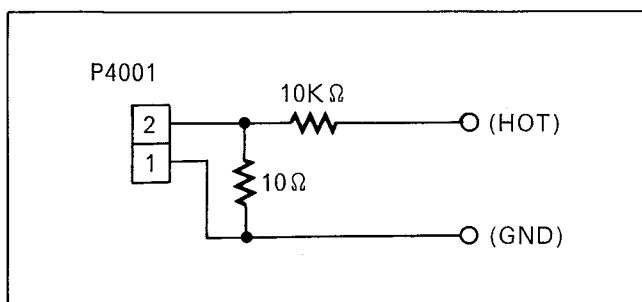

Fig. E9
1. Supply the audio signal (1KHz/0dB sine-wave) to audio circuit through -60dB attenuating circuit as shown in Fig. E9.